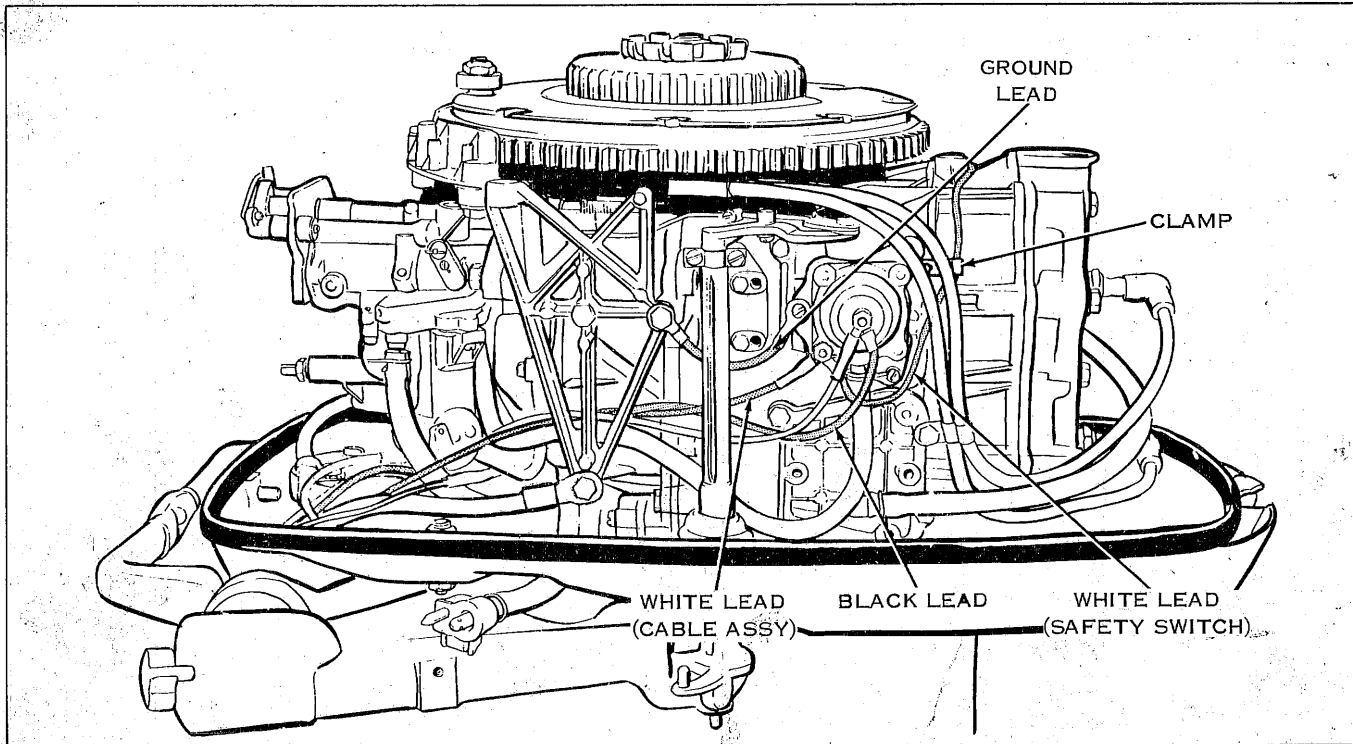

FIGURE 8
19. Remove and discard ground lead from port bracket to cut-out switch. See Figure 8.
24. Attach long black lead (thin) to center terminal of cut-out switch. See Figure 8.
Connect white lead (thin) to cut-out switch as shown in Figure 8.
27. Connect white lead (furnished with kit) to safety switch and cut-out switch. Secure to bypass cover with clamp provided. See Figures 8 and 9.
11. Place belt on generator pulley first, then slide belt over pulley on flywheel. See Figure 8.
12. To adjust belt tension, the screw attaching generator strap to bracket (see Figure 5) and the two adjusting nuts on the generator bolts (see Figure 8) should be loosened. Then tighten screw and nuts finger tight, or just tight enough so generator can still be pivoted in the bracket by hand. The generator strap and one of the bolt holes in the bracket are slotted so that the complete generator can be pivoted to adjust belt slack. Pivot generator by hand to take up belt slack. Then check belt tension. Using finger pressure, belt should give from 1/4 to 3/8 inch. When tension is correct, first tighten the two nuts securely, then tighten screw on generator strap. **DO NOT TIGHTEN STRAP SCREW BEFORE TIGHTENING NUTS.** Recheck belt tension after tightening nuts and screw. If tension is not correct, excessive wear on generator bearings and belt can occur. **CAUTION: NEVER RUN BELT TOO TIGHT!**